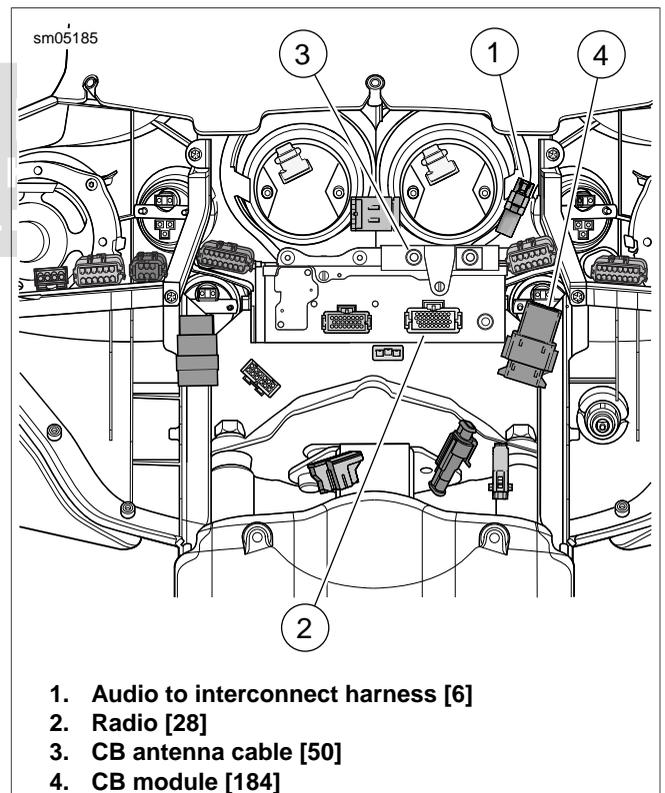

Figure 8-123. Audio Harness Connectors (FLHTCU)
6. See Figure 8-123. Disconnect the following connectors: